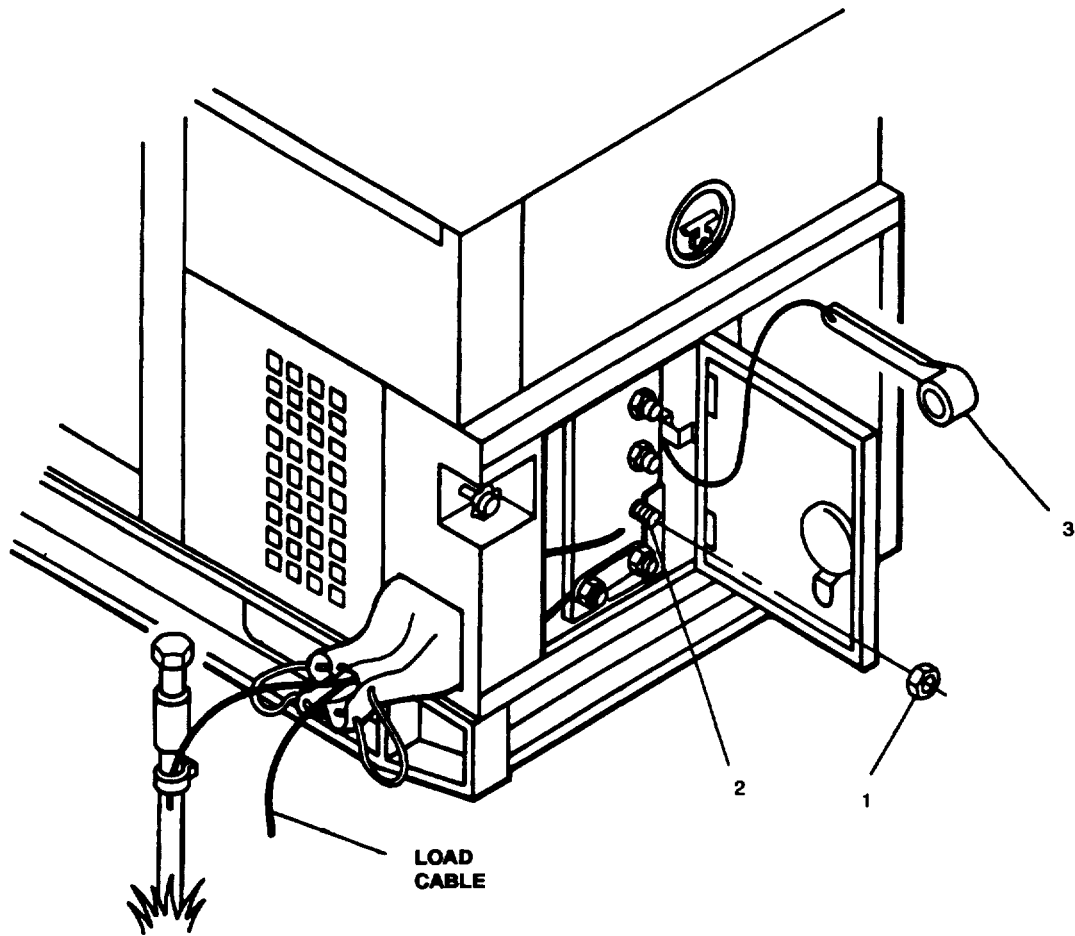

FIGURE 2-5. Installation of Load Cables
- d. Using terminal nut wrench (3, FIGURE 2-5) loosen terminal nuts (1) on terminals (2) selected in Step b.
- e. Insert ends of load cables through load cable exit. Then insert ends of cables into slots of load terminal studs (2).
- f. Tighten load terminal nuts (1).
- g. Secure wrench (3) in bracket inside load terminal door, and close door.